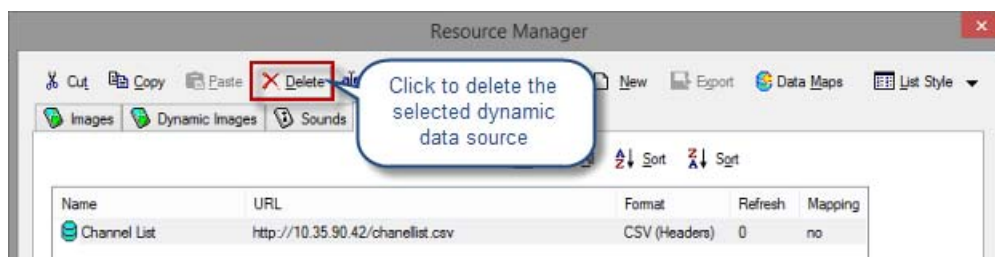

FIG. 46 Deleting a data source from the project
2. Click the **Delete** button (FIG. 46):